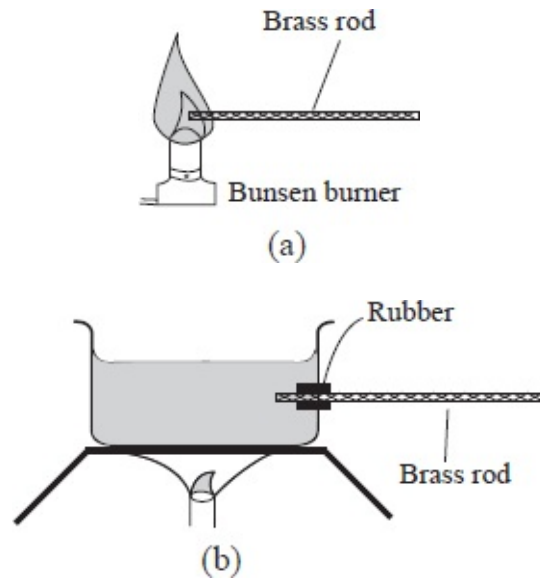

Fig. 7.4: Conduction depends on temperature differences
- Put the other end of one of the rods in boiling water (about 100 °C) and the other rod in the bluish part of the Bunsen burner flame (about 500 °C) see figure 7.4. Note how long it takes before the rods are too hot to hold.